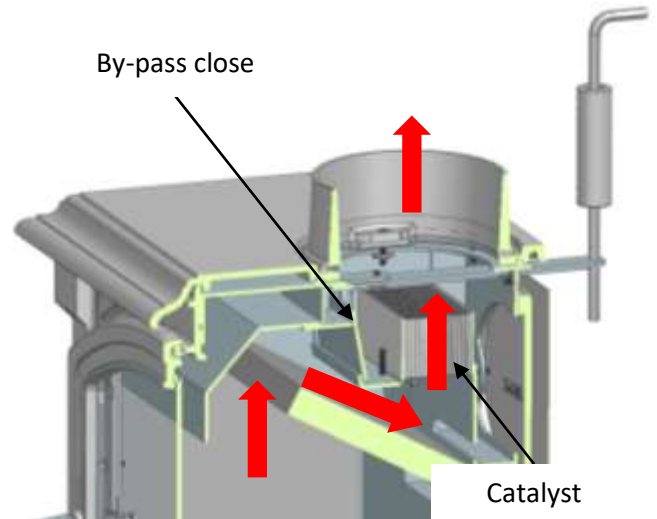

Fig. 19
- When the fire is well established, slide the Burn Type Lever to the top for normal operation with wood ("A"). Then adjust the Burn Rate Knob to the desired heat output, either manually or with the remote control. If you have the Catalytic Hybrid Woodbox System, close the by-pass to allow the flue gases pass through the catalyst (Fig. 19) to achieve the maximum efficiency of the stove. **Use the tool provided and protect your hands for such operation.** In addition, if you have an optional draft control (fig. 10), you can regulate combustion by operating its control.